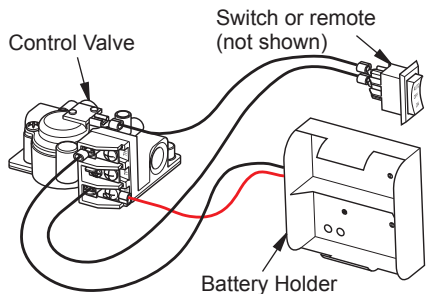

Figure 19 - Remote Wiring
6. Disconnect switch wires from control valve (see Figure 19).
9. Connect remote wires to control valve as shown in Figure 19.